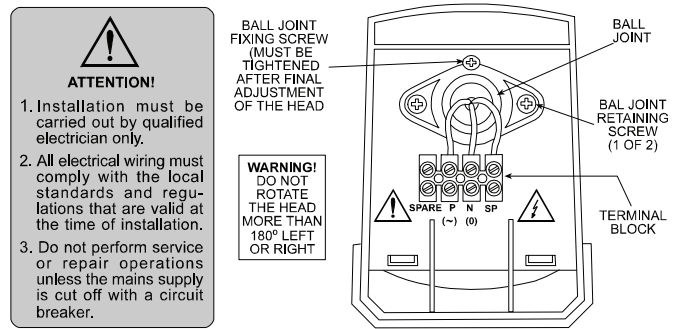

Figure 4. Head with Cover Removed
Only three terminal block connections are required. See Figures 4 and 5.
- Feed the wiring through the selected entryway, pass the wiring upward through the opening in the head, and connect the wires to the terminal block in the head (see Fig. 4 and 5).
- Slightly release the two ball joint retaining screws in the head (Fig. 4) and position the detector in the direction of the area to be covered.
- Check that all wiring and connections are correct. Refer to Figures 4 and 5.
- The neutral supply wire should be connected to the **N** (0) terminal of the GL and to the neutral input of the lighting device(s).